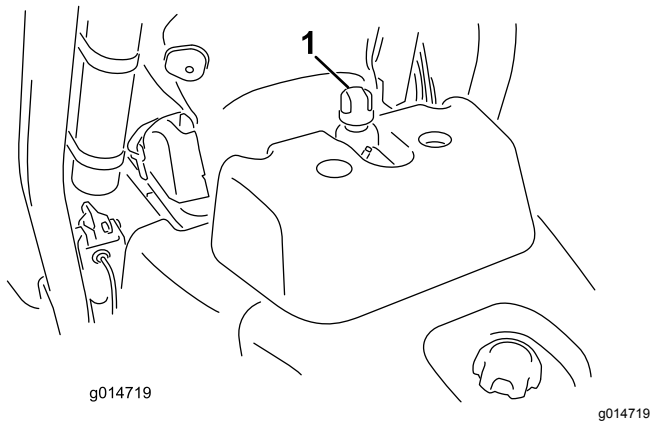

Figure 25
2. Remove the cap from the reservoir (Figure 25).